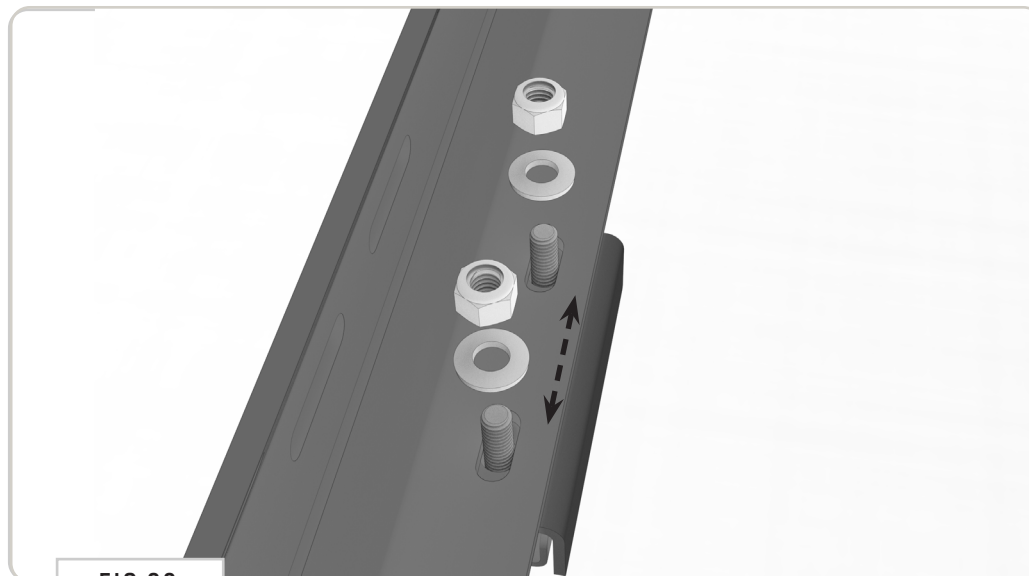

FIG 20
**6.2 Front-To-Back Adjustment:** Check to make sure you are happy with your alignment to the van Front-To-Back. Once you are happy with how the rack is aligned, proceed to tighten down fasteners holding the **Side Rails** to the **Landing Pads** (FIG 20).